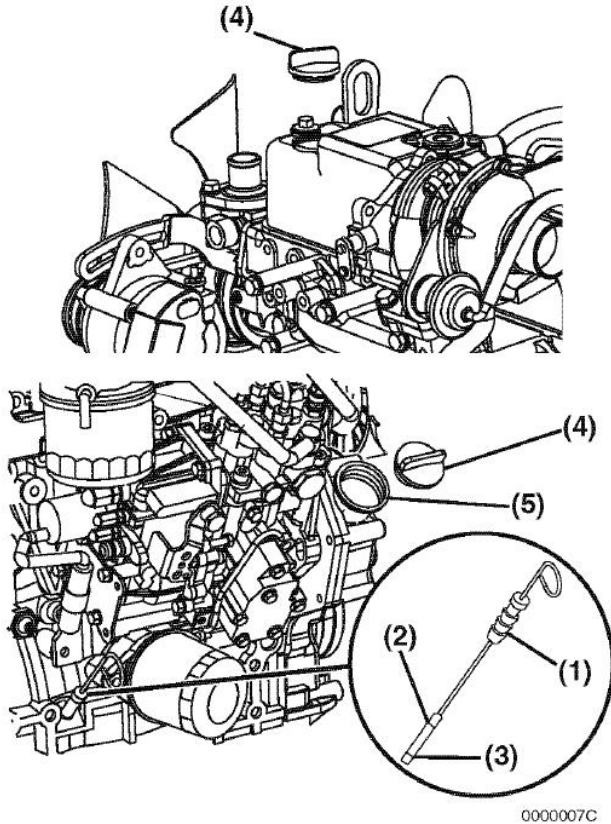

Figure 7. Adding Engine Oil
2. Remove the oil filler cap (item 4 in Figure 7).